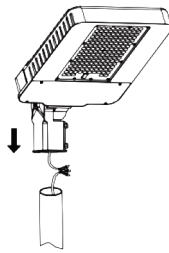

FIG.8
- Connect the power lead properly, Make wiring connection (see WIRING) and lay the wires in the pole, insert the slipfitter to the pole(see FIG.8).